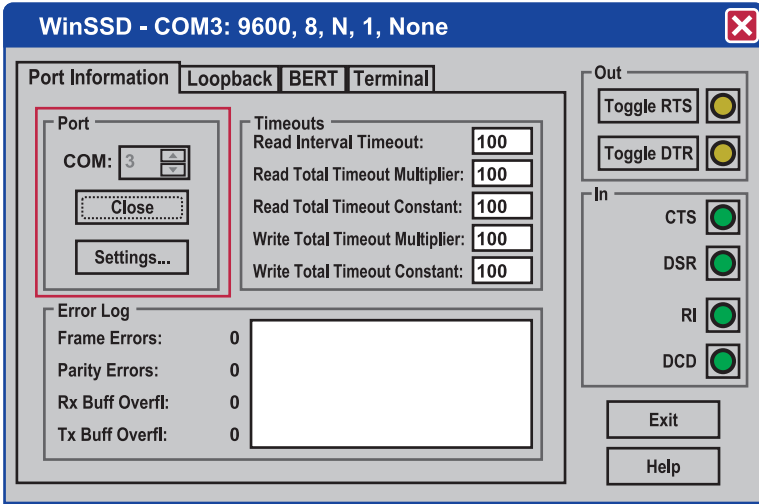

Figure A-1. Port information tab.
- On the "Port Information" tab, select the COM port you want to test and click on the "Open" button (see Figure A-1).